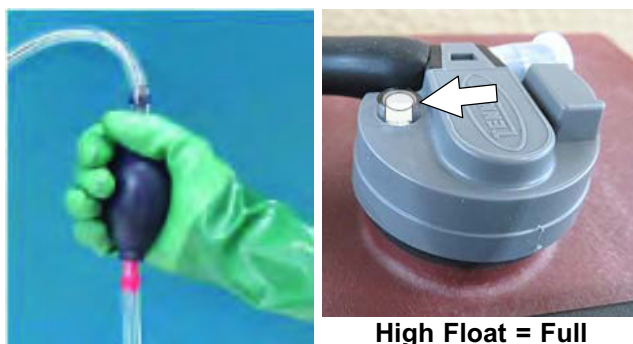

FIG. 131
6. Squeeze the bulb on the hand pump hose until firm. The indicator float will rise when full (Figure 131).